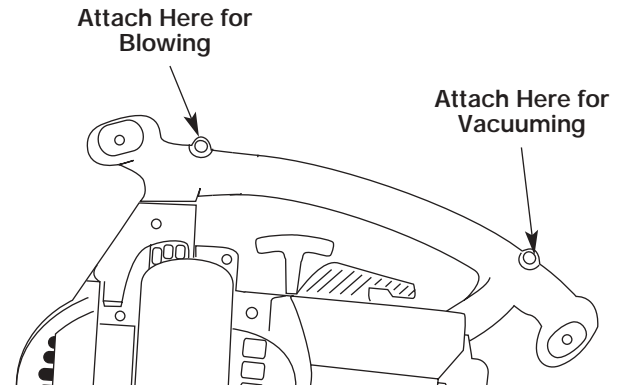

Fig. 8
3. Snap the clip on to the support fittings on the front or back of the handle. Clip to the front portion of the handle when using the unit as a blower, and clip to the back portion of the handle when using the unit as a vacuum (Fig. 8).